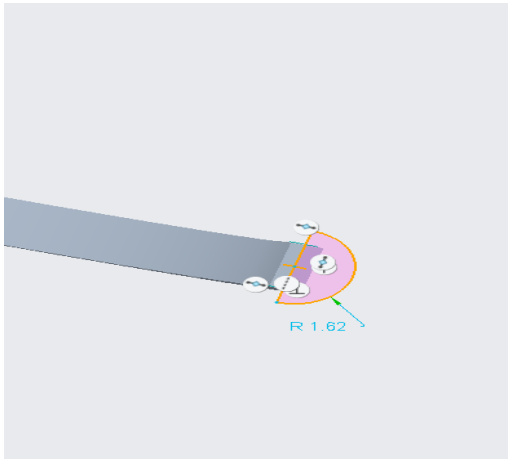

Fig1.7
- Taking one of the ends of portion 4 and sketch as shown in fig1.7 and revolve it using  Revolve to make portion 6 and then mirror it using  Mirror function.